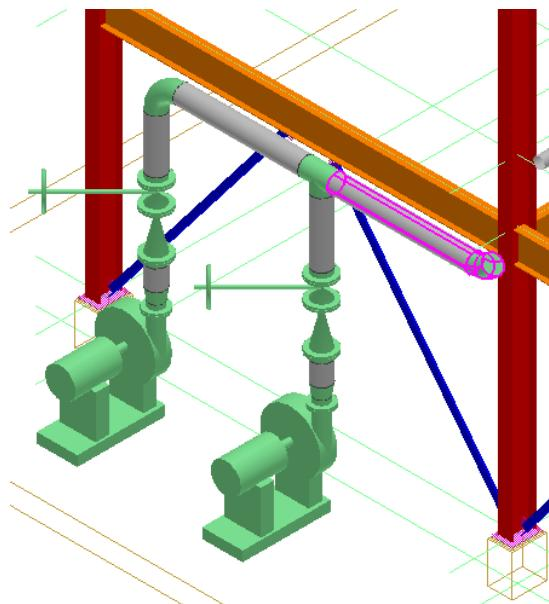

Figure 15.30: Selected Pipe Parts
23. Now select the remaining pipe parts belonging to 1001-P, as shown in Figure 15.30.